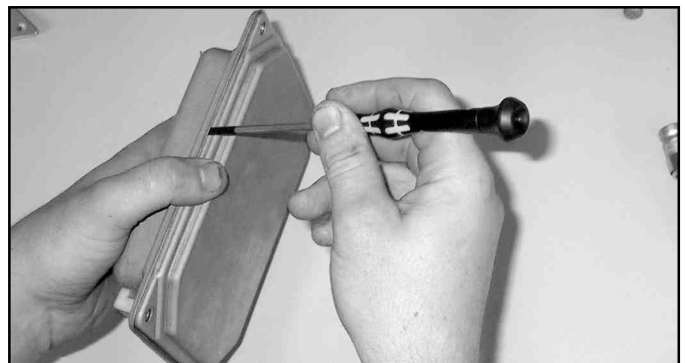

Figure 10
12. Separate the cover on the "Motronic" unit with a flat screwdriver, it is "glued" together with silicone. **Figure 10.**